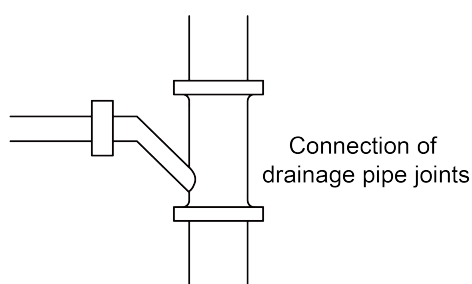

Fig.4.3.6
- (6) Install one trap for each unit.
- (7) Convenience for cleaning trap in the future should be considered when installing it.
- (8) The horizontal pipe can be connected to vertical pipe in the same level; please select the connection way as shown in following fig.
- No.1: Connection of drainage pipe joints (Fig.4.3.6)